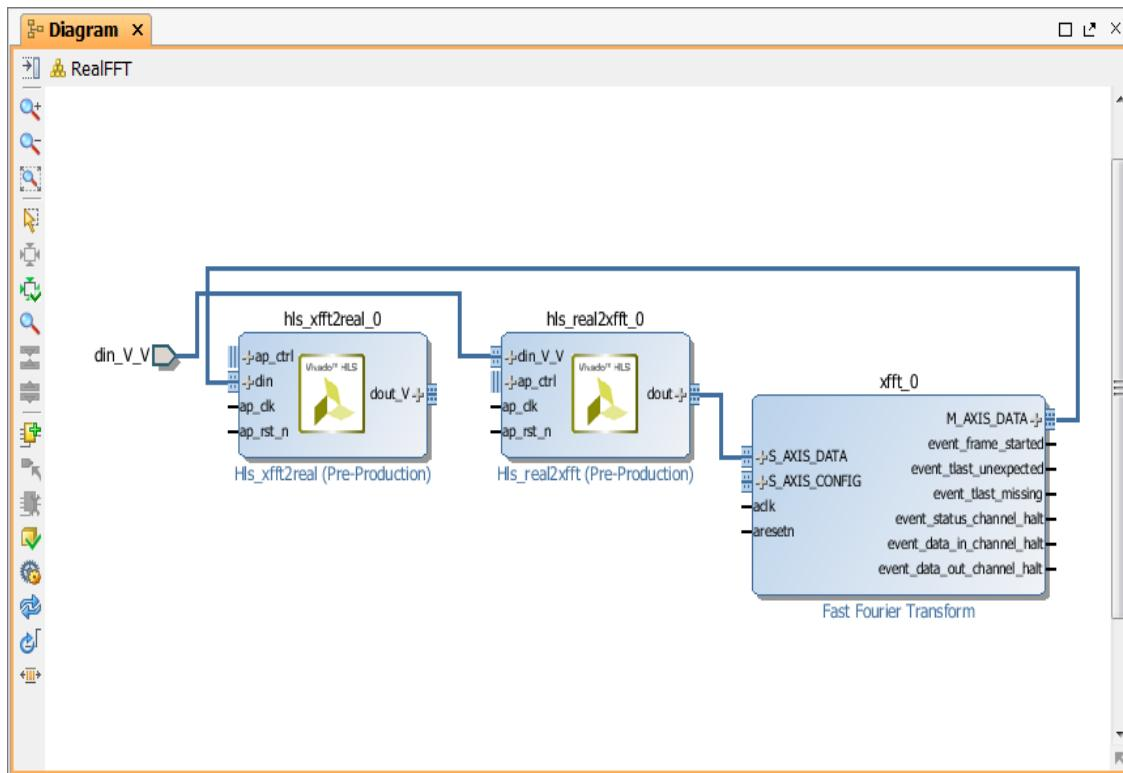

Figure 9-19: Make External Connections
- Right-click the **din_V_V** interface connector on the **hls_real2xfft** block and select **Make External** (Figure 9-19).